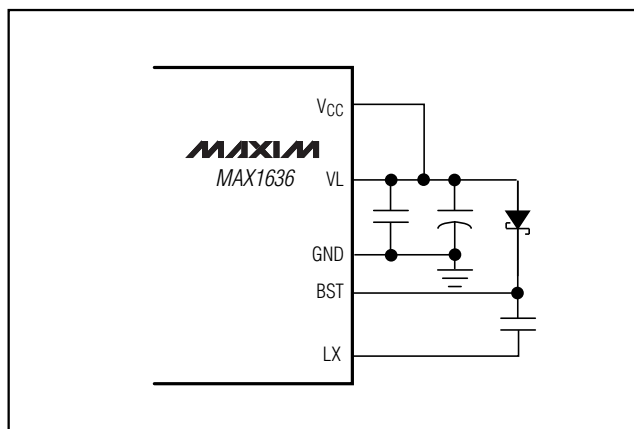

Figure 7. Capacitor Placement
- 2) Place the IC and signal components. Keep the main switching nodes (LX nodes) away from sensitive analog components (current-sense traces and REF capacitor). Place the IC and analog components on the opposite side of the board from the power-switching node. **Important:** The IC must be no further than 10mm from the current-sense resistors. Keep the gate-drive traces (DH, DL, and BST) shorter than 20mm and route them away from CSH, CSL, and REF. Place ceramic bypass capacitors close to the IC. The bulk capacitors can be placed further away. If using VL to power VCC, minimize noise by placing a 0.1μF capacitor close to the VCC pin and placing the 4.7μF capacitor further away, but closer than the boost diode (Figure 7).